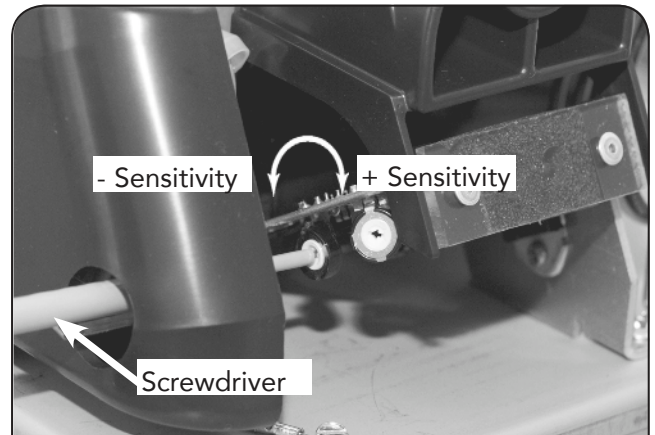

FIGURE 3 - ADJUSTING SENSITIVITY
7. **Adjusting Sensitivity** - The sensor is adjusted at the factory to turn on when hands are 4-6 inches away from the bottom of the dryer. To INCREASE SENSITIVITY turn the pot CLOCKWISE up to 1/3 TURN MAX. To DECREASE SENSITIVITY turn the pot COUNTERCLOCKWISE up to 1/3 TURN MAX. See Figure 3.
8. **Carefully** replace the cover using (2) tamper-proof screws supplied. Apply a bead of caulk around edges of cover to wall.
Check electrical service, circuit breaker. Make sure proper voltage is being supplied to the dryer. Check for loose or disconnected terminals to sensor. **INCREASE** sensitivity (**FIGURE 3**) by inserting a flat-blade screwdriver through the hole and into the pot to **CAREFULLY** turn the adjustment pot located on the sensor **CLOCKWISE 1/3 turn MAX**. If necessary, replace sensor.
Make certain black foam is attached to lens and lens is clean. If damaged, replace. **DECREASE** sensitivity (**FIGURE 3**) by inserting a flat-blade screwdriver through the hole and into the pot to **CAREFULLY** turn the adjustment pot located on the sensor **COUNTER-CLOCKWISE, 1/3 turn MAX**. If necessary, replace sensor.